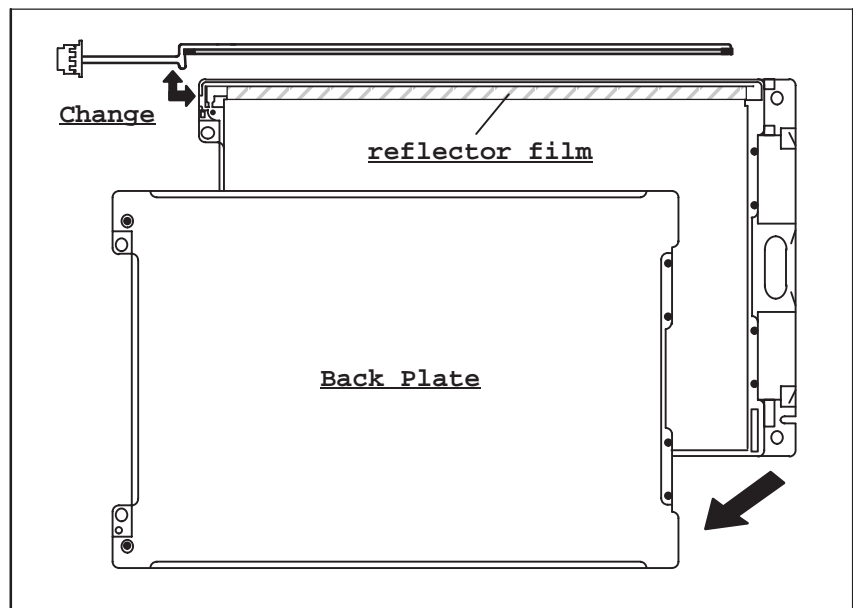

Figure 1-8 Removing the tube
- Disassemble the rear panel of the display as shown in Figure 1-8.